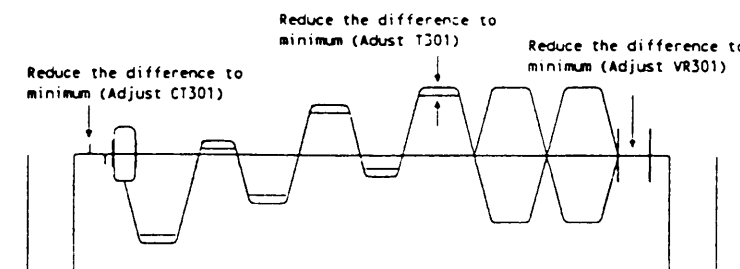

Fig 8.
- 5: Adjust CT301 to obtain the waveform as in fig. 8.
- 6: Adjust VR301 to obtain the waveform as in fig. 8.
- 7: Adjust T301 to obtain waveform as in fig. 8.